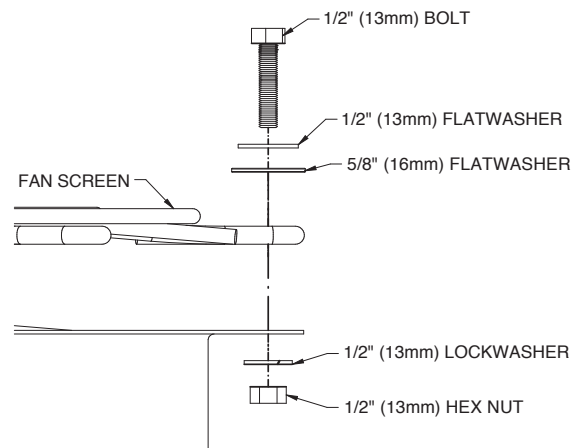

Figure 14 – Attaching Fan Screen to Cylinder
4. At each hole, attach the fan screen to the discharge cylinder as shown in Figure 14.